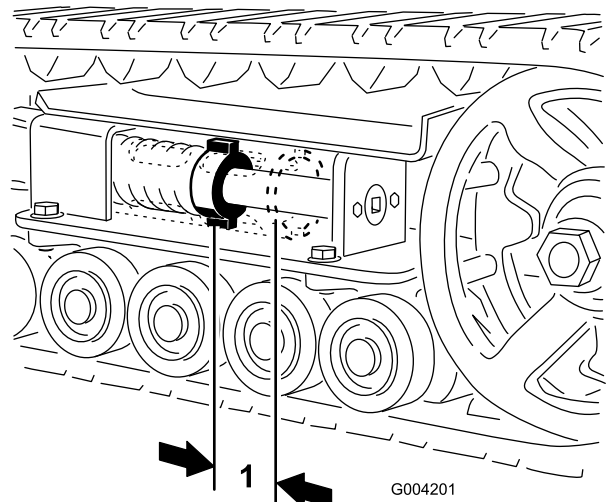
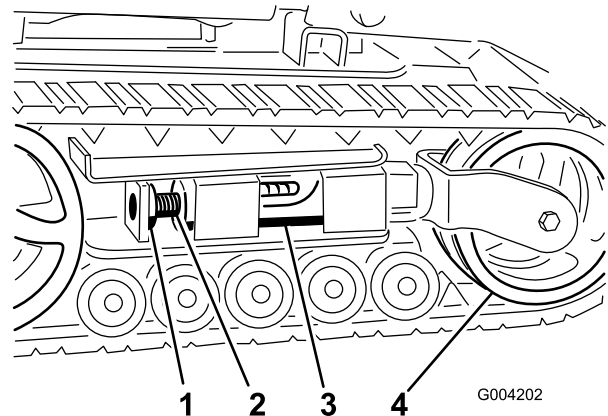
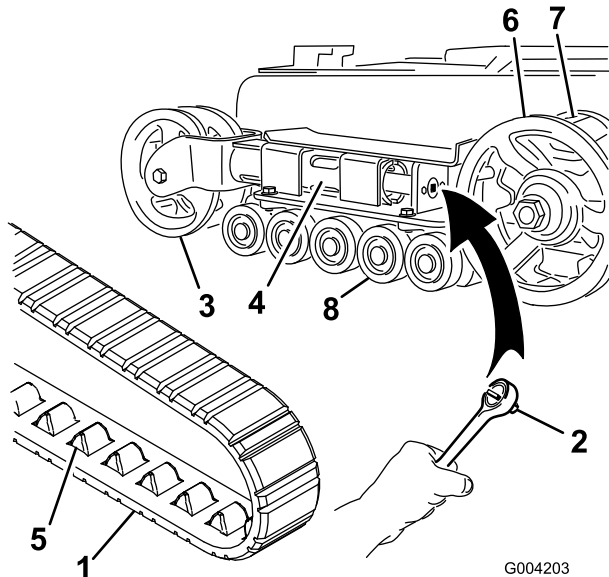
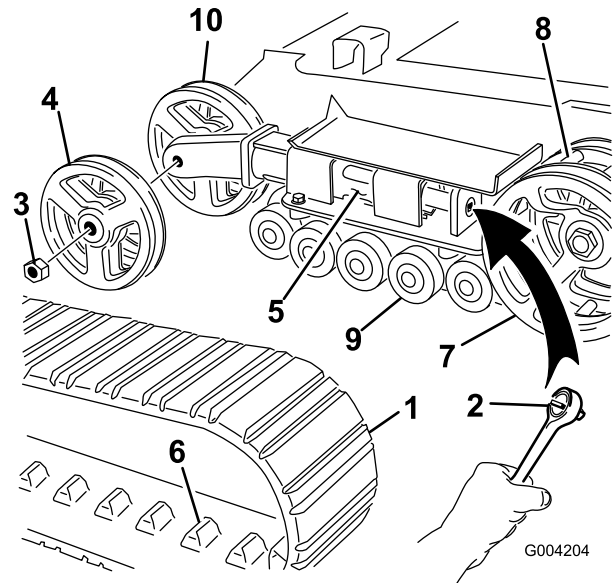

Figure 41
Figure 42
Figure 43
Figure 44
3. Remove the locking bolt and nut (Figure 42).
4. Using a 1/2 inch drive socket wrench (Figure 43), turn the tensioning screw counter-clockwise until the distance between the tension nut and the back of the tension tube (Figure 41) is 2-3/4 inches (7 cm).
5. Align the closest notch in the tension screw to the locking bolt hole and secure the screw with the locking bolt and nut (Figure 42).
There should be 2-3/4 inches (7 cm) between the tension nut and the back of the tension tube (Figure 41). If not, adjust the track tension using the following procedure:
4. Using a 1/2 inch drive socket wrench, release the drive tension by turning the tensioning screw clockwise (Figure 42 and Figure 43).
5. Push the tension wheel toward the rear of the unit to move the tension tube against the frame (Figure 43). (If it does not touch the frame, continue turning the tensioning screw until it does.)
7. When the track is off of the tension wheel, remove it from the drive sprocket and road wheels (Figure 43).
8. Beginning at the drive sprocket, coil the new track around the sprocket, ensuring that the lugs on the track fit between the cogs on the sprocket (Figure 43).
9. Push the track under and between the road wheels (Figure 43).
11. Turn the tensioning screw counter-clockwise until the distance between the tension nut and the back of the tension tube (Figure 41) is 2-3/4 inches (7 cm).
4. Using a 1/2 inch drive socket wrench, release the drive tension by turning the tensioning screw clockwise (Figure 42 and Figure 44).
5. Push the tension wheel toward the rear of the unit to move the tension tube against the frame (Figure 44). (If it does not touch the frame, continue turning the tensioning screw until it does.)
6. Remove the nut securing the outer tension wheel and remove the wheel (Figure 44).
7. Remove the track (Figure 44).
8. Remove the nut securing the inner tension wheel and remove the wheel (Figure 44).
12. Install the inner tension wheel and secure it with the nut removed previously (Figure 44).
14. Install the new track, ensuring that the lugs in the track fit between the cogs in the middle of the drive sprocket (Figure 44).
15. Install the outer tension wheel and secure it with the nut removed previously (Figure 44).
17. Turn the tensioning screw counter-clockwise until the distance between the tension nut and the back of the tension tube (Figure 41) is 2-3/4 inches (7 cm).